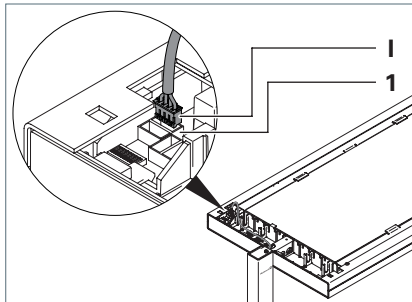

Fig. 4: Connecting the luminaire head, Part 1.
- Connect the plug **I** to the socket **1** "Tastm." at the luminaire head, see Fig. 4 and see Tab. 3.